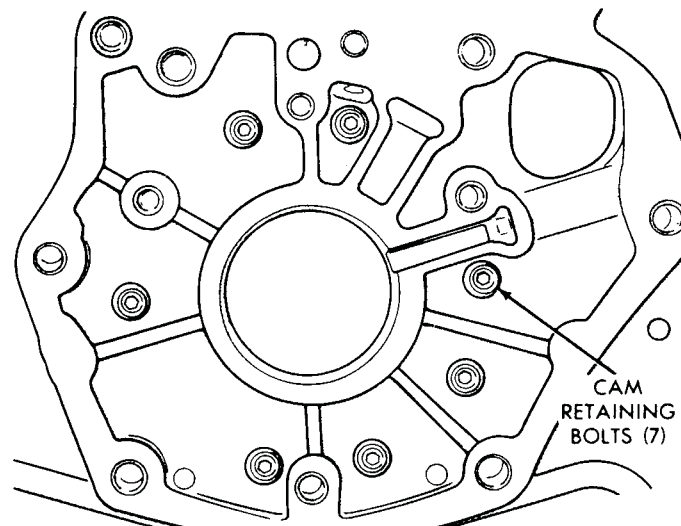

Fig. 24—Cam Retaining Bolts
(3) Drill through each rivet head with a 3/8 inch drill. Be careful not to drill into the transmission case. Chip off rivet heads with a small chisel, then drive rivets and cam from the case with a blunt punch of proper size.
(4) Carefully enlarge rivet holes in the case with a 17/64 inch drill. Remove all chips and foreign matter from the case, make sure cam area is free of chips and burrs.
(5) To install, position cam and roller spring retainer in the case. Align cam bolt holes with holes in the case, then thread all seven retaining bolt and washer assemblies into cam a few turns. The cone washers must be installed so inner diameter is coned toward the bolt head (Fig. 24).
(6) Tap cam firmly into the case if necessary. Draw retaining bolts down evenly, then tighten to 100 in. lbs. (11 N·m).